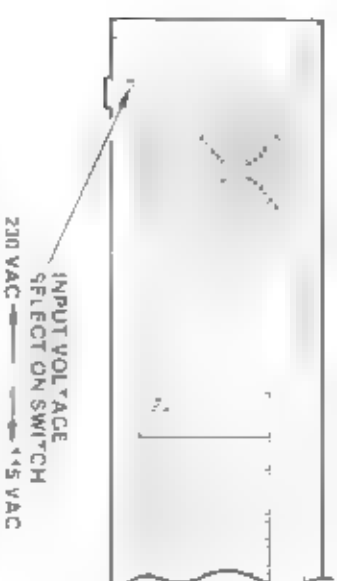

Figure 3-2 Setting the System Unit Voltage Switch
- 4 Turn to the system unit rear panel and set the system unit for the correct input voltage (Figure 3-2). Using a flat-blade screwdriver, push the input voltage selector switch to the right (the 115 VAC position) for 110 through 120 VAC input voltage. Push the selection switch to the left (the 230 VAC position) for 220 through 240 VAC input voltage. (Be sure to remove the reminder sticker that is beside this switch.)